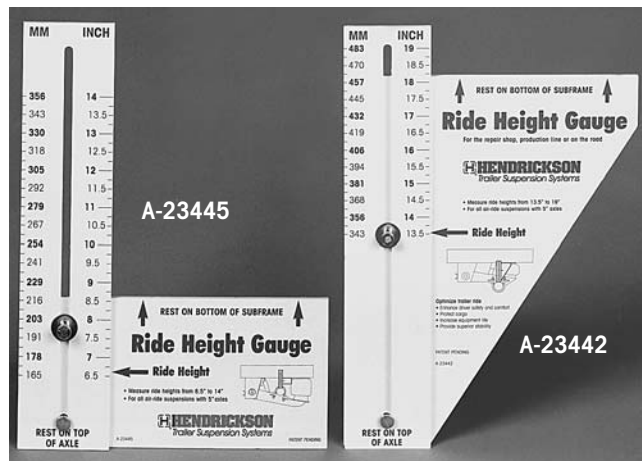

Figure 2. Hendrickson ride height gauges
1. For suspensions with five-inch diameter axles, use a Hendrickson Ride Height Gauge (Figure 2) to measure the distance between the axle and the mounting surface of the suspension.